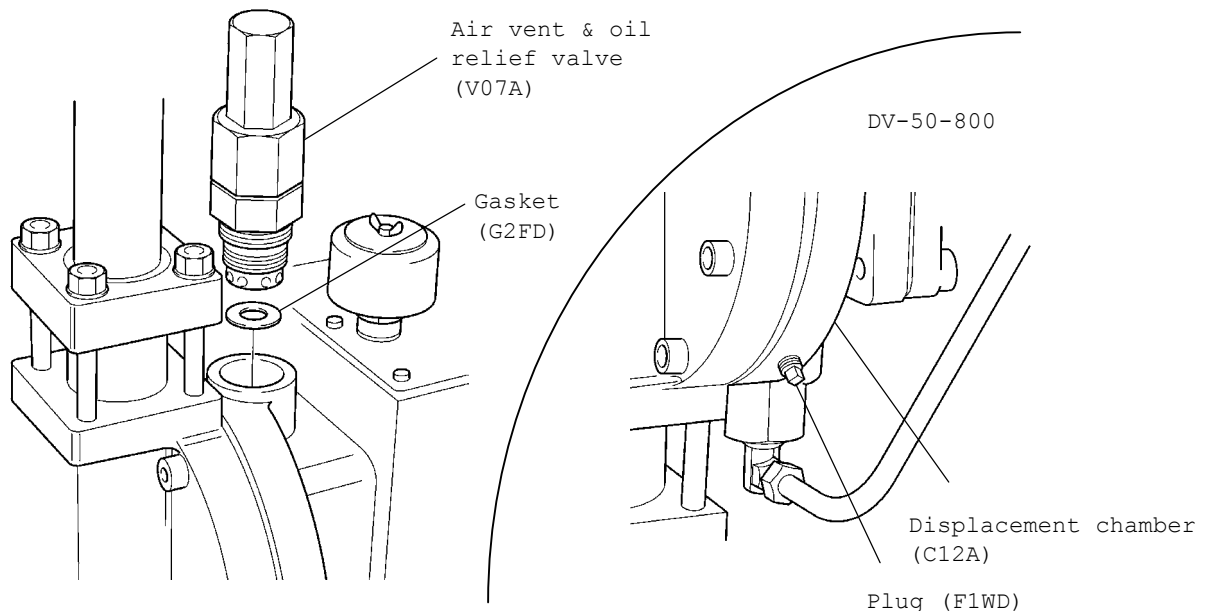

Fig. 7-8 Drain of hydraulic oil
- (1) Drain all residual liquid in the suction and discharge piping of the pump.
- (2) Remove the suction and discharge piping.
- (3) Remove the air vent & oil relief valve. Refer to Fig. 7-8.
- (4) Drain oil from crankcase and the liquid end adapter. Refer to Section 3.3.
- (3) Remove the air vent & oil relief valve. Refer to Fig.7-8.
- (4) In a case of Head size DV-50.800: Remove the plug at the bottom of the displacement chamber, and drain the hydraulic oil.
- (5) Drain hydraulic oil of the crankcase and the liquid end adapter. Refer to Section 3.3.
- (6) Loosen the nut on the side of the oil compensation valve fitting, and remove the tube. When the head size is DV-800, also loosen the nut of the liquid end adapter fitting, and remove the tube.
- (7) Remove the cap bolts and remove the displacement chamber.